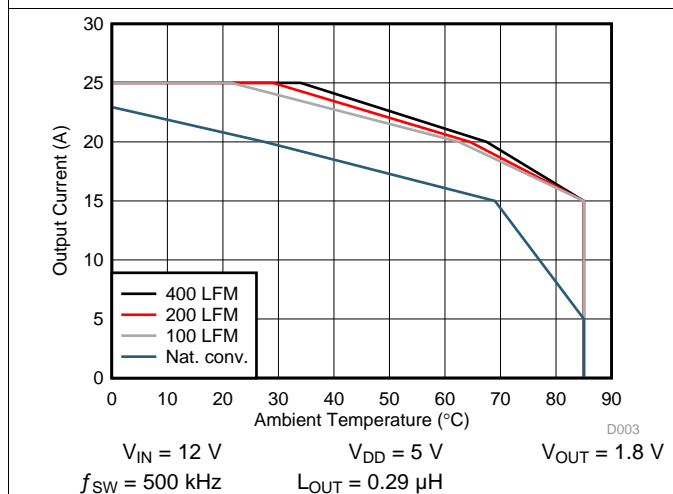

Figure 3. Safe Operating Area – PCB Horizontal Mount (1)
The SOA curves in the CSD97374Q4M data sheet give engineers guidance on the temperature boundaries within an operating system by incorporating the thermal resistance and system power loss. Figure 3 and Figure 4 outline the temperature and airflow conditions required for a given load current. The area under the curve dictates the safe operating area. All the curves are based on measurements made on a PCB design with dimensions of 4 in (W) x 3.5 in (L) x 0.062 in (T) and 6 copper layers of 1-oz copper thickness.